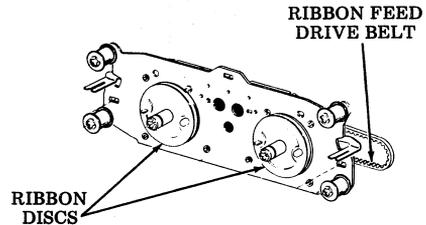

Fig. 30
5.03 Check ribbon feed drive belt for missing teeth. Check for damage or worn areas on ribbon discs (Fig. 30). Replace if necessary. If belt is replaced, perform RIBBON FEED DRIVE BELT TENSION adjustment.